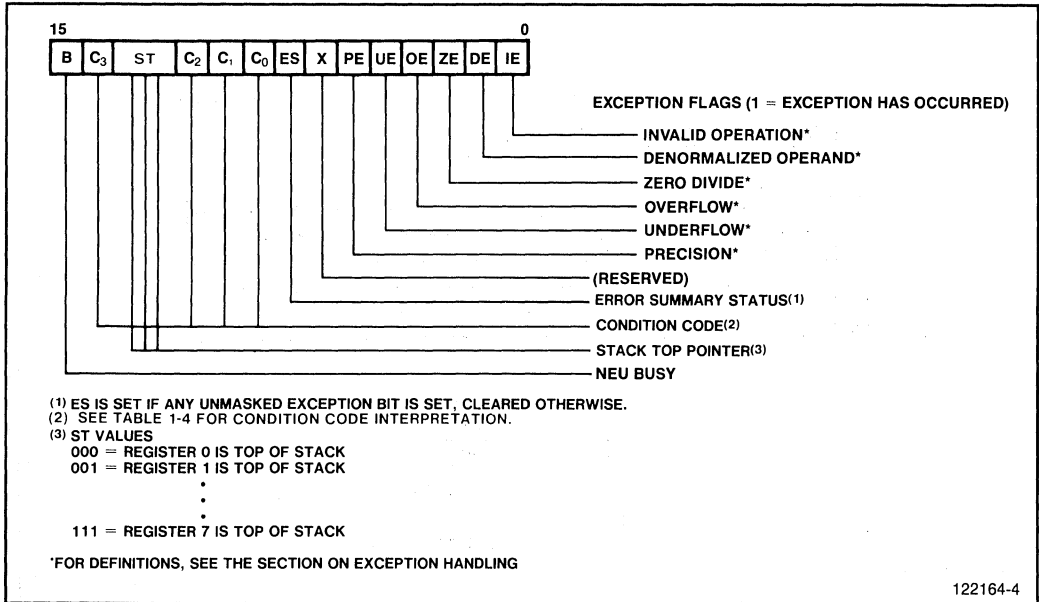

Figure 1-4. 80287 Status Word
The 16-bit status word shown in figure 1-4 reflects the overall state of the 80287. This status word may be stored into memory using the FSTSW/FNSTSW, FSTENV/FNSTENV, and FSAVE/FNSAVE instructions, and can be transferred into the 80286 AX register with the FSTSW AX/FNSTSW AX instructions, allowing the NPX status to be inspected by the CPU.
Figure 1-4 shows the six error flags in bits 0-5 of the status word. Bit 7 is the error summary status (ES) bit. ES is set if any unmasked exception bits are set, and is cleared otherwise. If this bit is set, the $\overline{\text{ERROR}}$ signal is asserted. Bits 0-5 indicate whether the NPX has detected one of six possible exception conditions since these status bits were last cleared or reset.